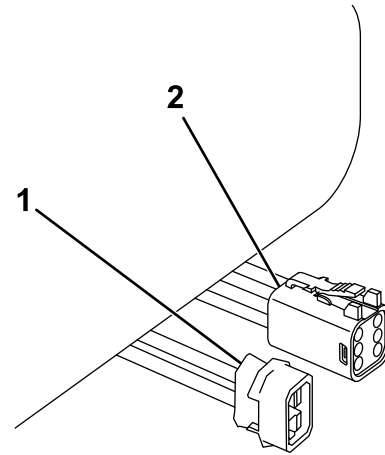

Figure 20
17. Mount the plow connector and the black and red power/ground connector to the lower part of the rear bumper using a cable tie (Figure 20).